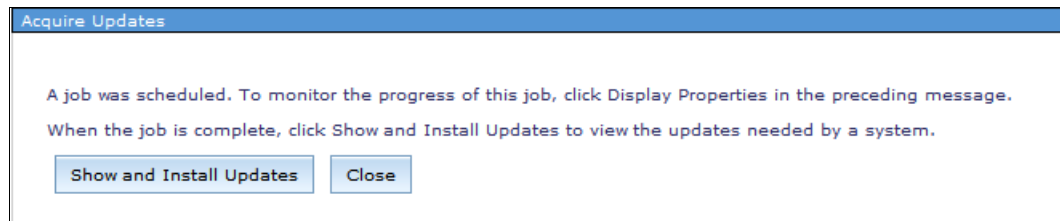

Figure 6-95 Acquire Updates window: Show and Install Updates
4. After the Acquire Updates job is completed, click **Show and Install Updates**, as shown in Figure 6-95.
4. After the Acquire Updates job is completed, click **Show and Install Updates**, as shown in Figure 6-95 on page 204.